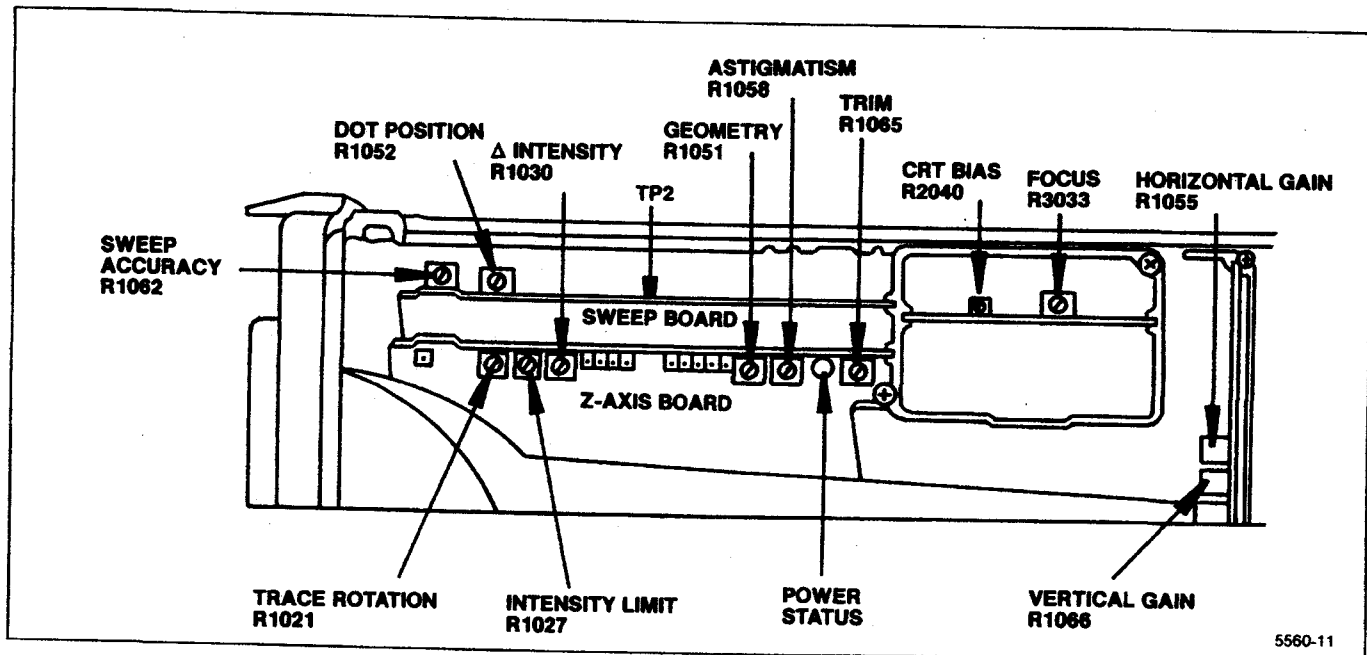
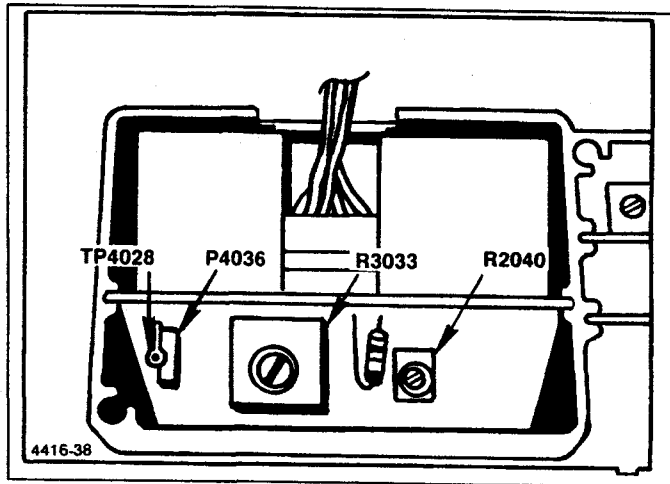

Figure 5-2. Crt display adjustment and test point locations.
Figure 5-3. Adjustment and test point locations on High Voltage module.
b. Remove the cover over the Z-Axis and Sweep boards. Set the Intensity Limit R1027, on the Z-Axis board (Figure 5-2) fully counterclockwise and Crt Bias R2040, on the High Voltage board (Figure 5-3) fully clockwise.
(2) Turn the INTENSITY clockwise until a crt beam dot appears on screen.
(3) Focus the dot by adjusting R3033 on the High Voltage board (Figure 5-3) for the smallest round dot.
(4) Set the INTENSITY control such that the voltage at the collector of Q4058 is 5.5 V higher than the voltage noted in part d, subpart 1.
(5) Use the non-metallic screwdriver to adjust Crt Bias, R2040, counterclockwise until the crt beam is visible, then clockwise until the beam dot just extinguishes, with the screen shaded. (If no dot appears, with the adjustment fully counterclockwise, this will be the bias setting.)
(6) Turn the INTENSITY clockwise until a dot is visible then defocus the dot with the Focus adjustment, R3033. Adjust Astigmatism R1058 (Figure 5-2) for a round dot then refocus with R3033 for the smallest and sharpest dot.
(7) Turn the INTENSITY counterclockwise until the dot just disappears, and again measure the collector voltage at Q4058 or Q4059. Voltage should equal or exceed that set in part d, subpart 4. If the voltage is less, repeat the procedure for setting Crt bias.
(1) Switch POWER off, then remove P4036 (Figure 5-3) on the High Voltage board. Turn INTENSITY fully clockwise, MANUAL SCAN fully counterclockwise, and ensure that the TIME/DIV is in the MNL position. Set the Intensity Limit R1027, on the Z-Axis board, (Figure 5-2) fully clockwise.
(2) Connect the voltmeter between TP4028 (Figure 5-3) and the ground lug on the crt shield.
- (3) Switch POWER back on. After the instrument initializes, activate 2 dB/DIV and switch Digital Storage off.
- (4) Adjust Intensity Limit R1027 (Figure 5-2) for a voltage reading of 0.9 V at TP4028.
- (5) Switch POWER off and re-install the jumper P4036 on the High Voltage board. Turn POWER on and adjust the INTENSITY for normal viewing.
- h. Adjust the Trace Rotation R1021 (Figure 5-2) so the trace is aligned with the graticule lines.
- i. Activate VIEW A and VIEW B then use the PEAK/AVERAGE cursor, positioned at the top then bottom of the screen, as a reference line to adjust Geometry R1051 (Figure 5-2) for the straightest trace at top and bottom of the screen.
k. Adjust  $\Delta$  Intensity R1030 (Figure 5-2) so the brightness of the readout characters is slightly higher than the trace. Readout characters should be just visible after the trace has disappeared. This ratio provides the best setting for photograph purposes. Disconnect CAL OUT signal from the RF INPUT.
- c. Adjust Vert Gain, R1066 (Figure 5-2) for a full screen display.
- e. Set TIME/DIV to MNL. Monitor TP2 on the Sweep board (Figure 5-2) with a voltmeter (Digital Multimeter). Set the MANUAL SCAN control for 0.0 V reading on the voltmeter (TP2). Set the horizontal POSITION control to center the CRT beam (dot).
- g. Adjust Horiz Gain, R1055 (Figure 5-2) to position the crt beam to the right graticule edge (10th graticule line).